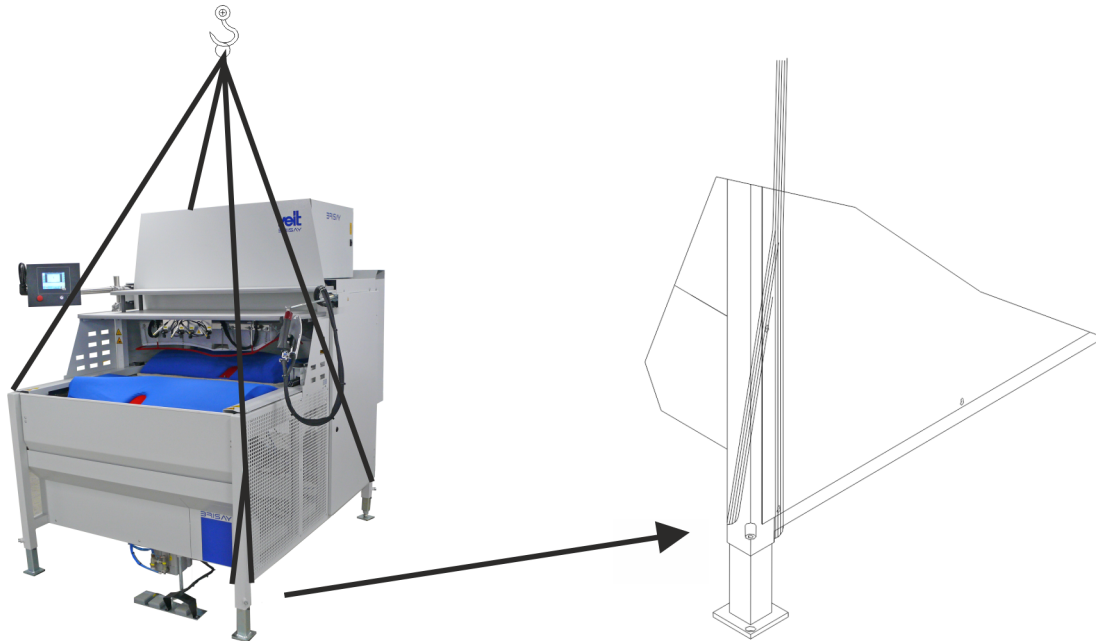

Fig. 6: Transport by crane
- Fasten ropes at the four machine mounting pads (see Fig. 6).